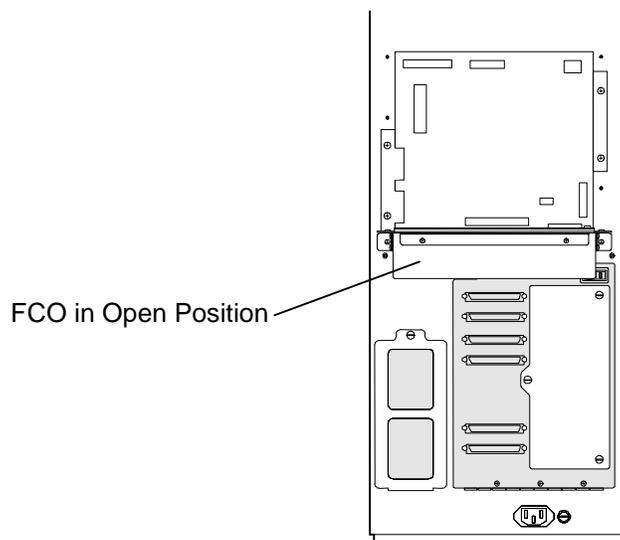

Figure 4-10 Fibre Channel Option in the Open Position
6. Loosen the two top captive screws on the FCO that were tightened in step number four. Carefully guide the FCO backwards as it pivots on the hinges and comes to its open position. See Figure 4-10.